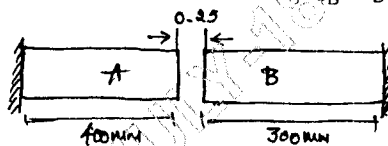

Fig Q2(b)
b. At room temperature, the gap between bar A and bar B shown in Fig Q2(b) is 0.25mm. What are the stresses induced in the bars, if the temperature rise is 35°C . Given $A_A = 1000\text{mm}^2$; $A_B = 800\text{mm}^2$; $E_A = 2 \times 10^5 \text{ N/mm}^2$; $E_B = 1 \times 10^5 \text{ N/mm}^2$; $\alpha_A = 12 \times 10^{-6} /^\circ\text{C}$; $\alpha_B = 23 \times 10^{-6} /^\circ\text{C}$; $L_A = 400\text{mm}$; $L_B = 300\text{mm}$.